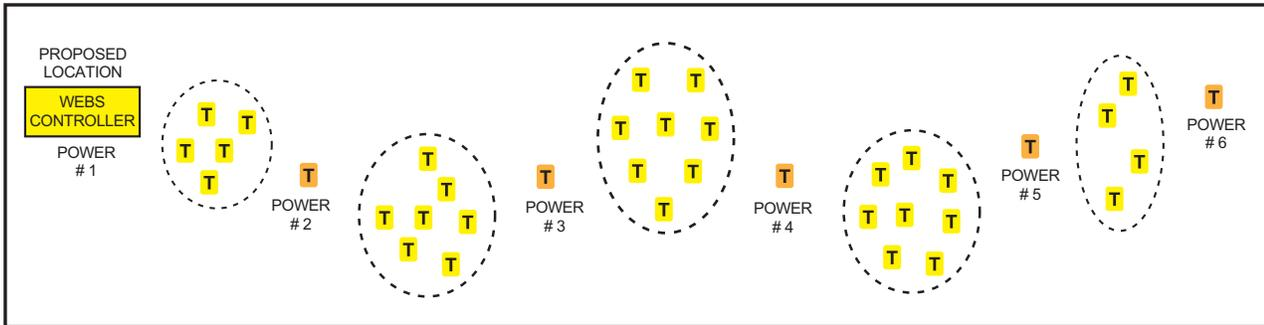

Fig. 14. Power Up Sequence for Onsite Initial Network Setup
1. As shown in Fig. 14 below, first power up the orange devices in sequence and wait until they are joined to the network or matched to their offline created counterparts.